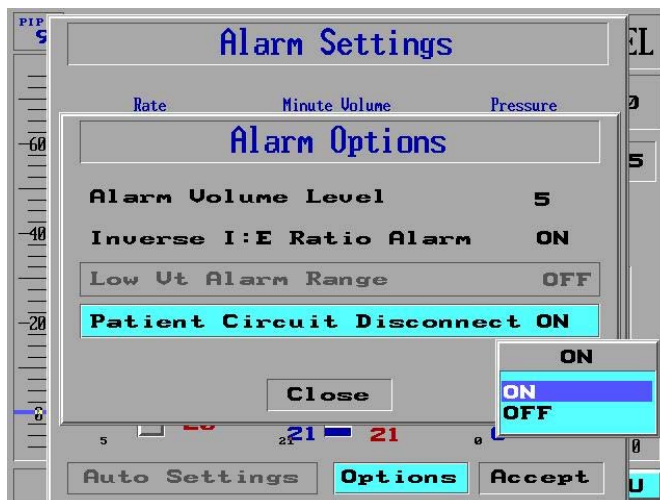

Figure 146: The Patient Circuit Disconnect Alarm Pop-Up Window
3. Press the Control Knob. An **ON/OFF** selection pop up window appears (Figure 146).